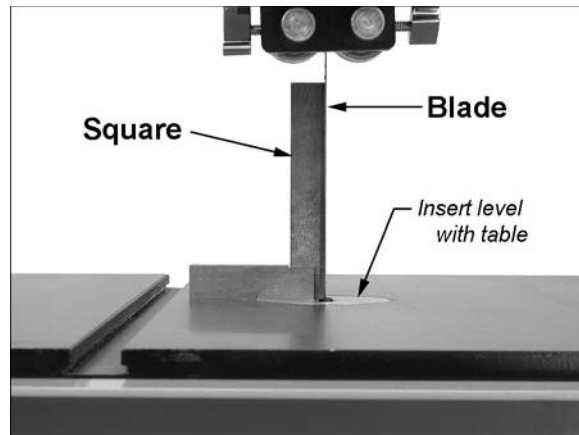

Figure 22
4. Make sure the table insert is level with surface of table by rotating one or more of its set screws with a 5/164" (2mm) hex wrench. Then place a square on the table and against the blade to check that the table is 90° to the blade. See Figure 22. *NOTE: Do not push square into blade.*
5. If table and blade are not square, use a 9/16" (14mm) wrench to loosen the lock nut (E) then rotate the stop bolt. Turn the stop bolt as needed until there is no longer light showing between the square and the blade.
6. Tighten lock nut (E) to secure the table stop in position.
7. Tighten the lever (B).